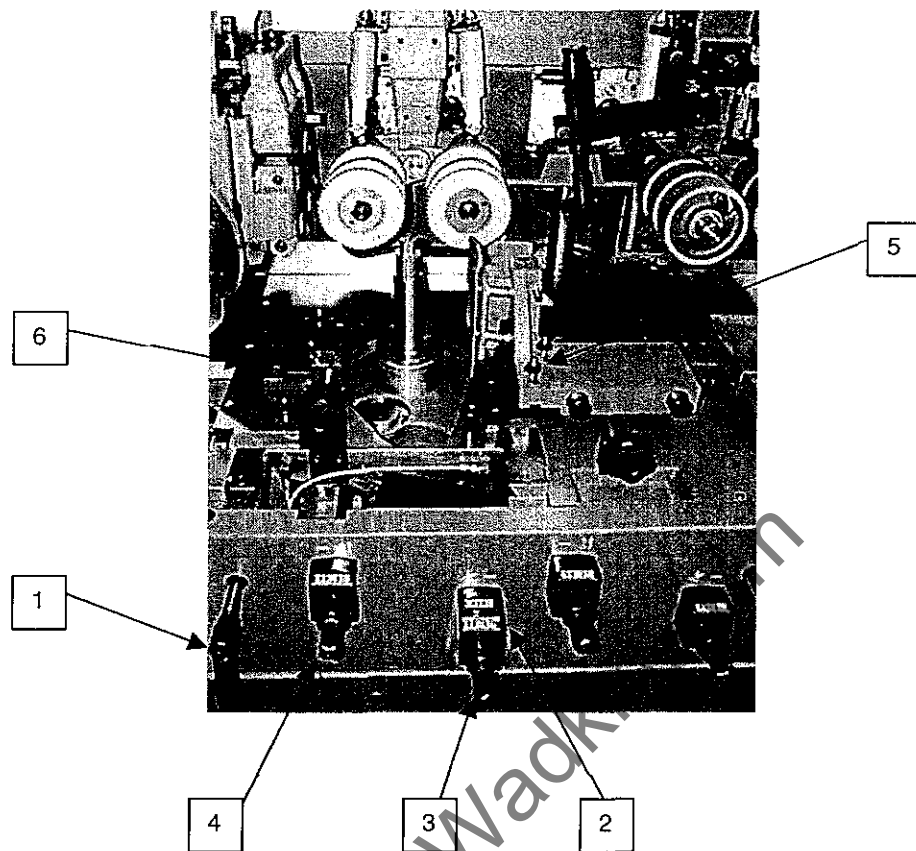

Figure 5.4
- 9 Lock handle (2).
- 10 Position the outfeed fence nose piece (4) by slackening the locking screw (5), located behind the fence, and then positioning the nose piece 3 to 5mm from the cutter block.
- 11 Retighten screw (5).
5.4 Setting Near Side Head (Figure 5.4)